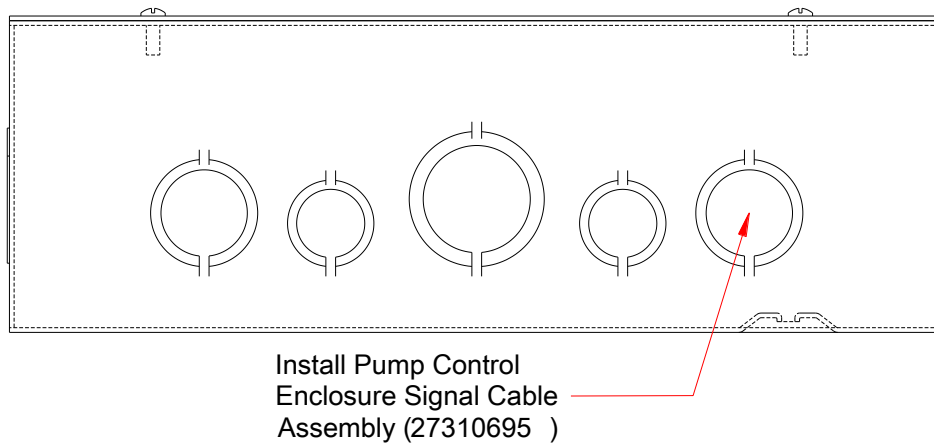
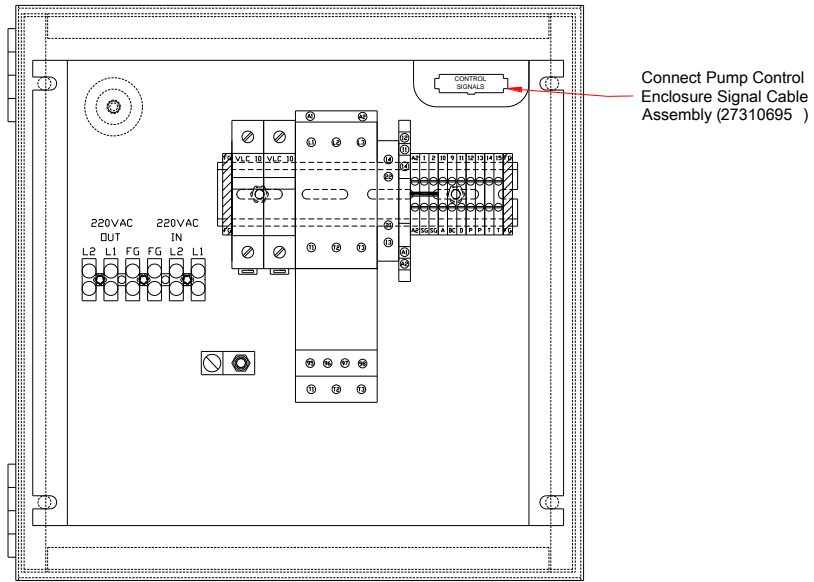

Figure 28 - Pump Control Signal Wiring From CPU.
Figure 29 - Pump Control Enclosure Layout.
4. Identify the Pump Control end of the Pump Control Enclosure Signal Cable Assembly (27310695) with approximately 5" of wiring outside of the conduit. Using the identified end of the cable, install cable through the conduit opening shown in Figure 28.
5. Connect the Pump Control Enclosure Signal Cable Assembly (27310695) to the Control Signals connector inside the enclosure as shown in Figure 28 & Figure 29.